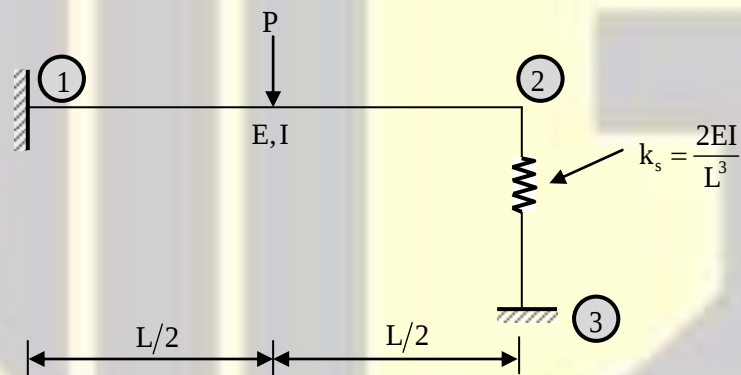

Figure 1
- (c) A propped cantilever beam is shown in Figure 1. Analyze it using the stiffness matrix method and find the reactions in the spring. Neglect axial deformation in the beam. Show the degrees of freedom.